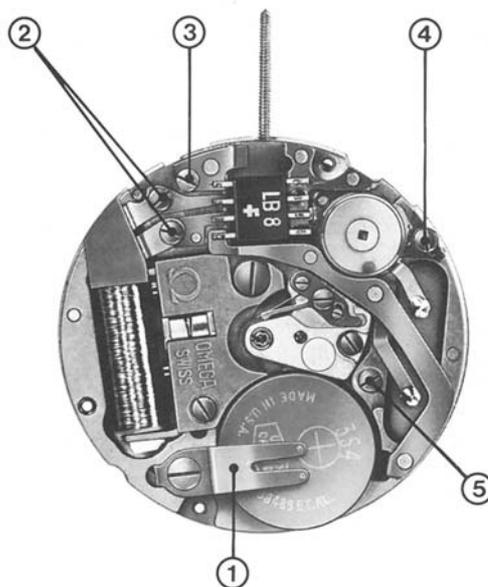

Fig. 1.3
3.19. Remove power cell bridle and power cell (point 1, fig. 1.3.)
3.23. Tighten the 5 screws according to op. 3.20 and fig. 1.3.